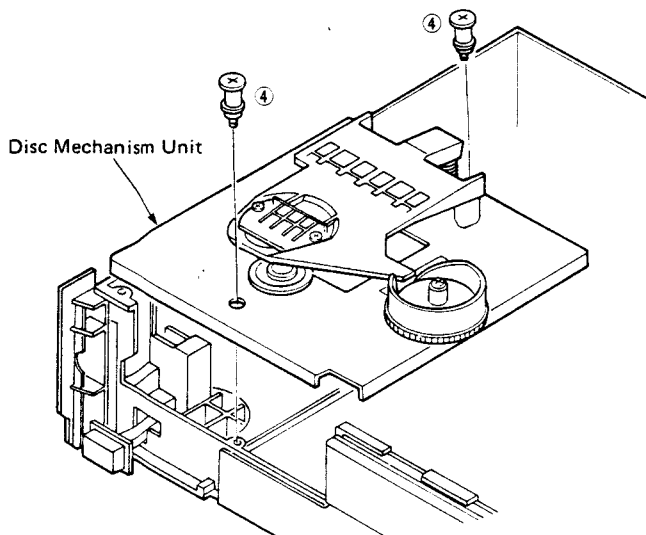

Fig. 4
- Remove 2 screws (④) in Fig. 4.